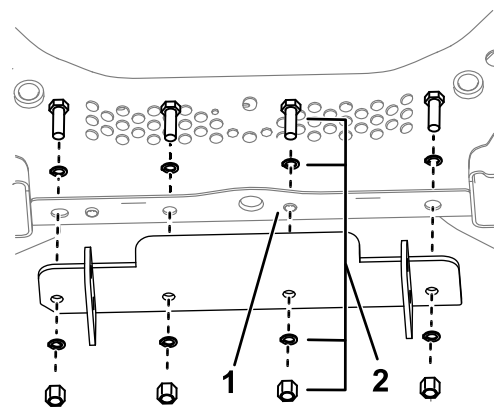

Figure 4
- For vehicles not equipped with a skid plate, secure the sides of the bracket, mark and drill the hole for the remaining hole as noted in Figure 4. Install the bracket using 4 bolts (1/2-13 x 1-1/2 inches), 8 split lock washers (1/2 inch), and 4 nuts (1/2 inch).
- For vehicles equipped with a skid plate, install the bracket using existing hardware for the location noted in Figure 4. Install the remainder of the bracket using 3 bolts (1/2-13 x 1-1/2 inches), 6 split lock washers (1/2 inch), and 3 nuts (1/2 inch).